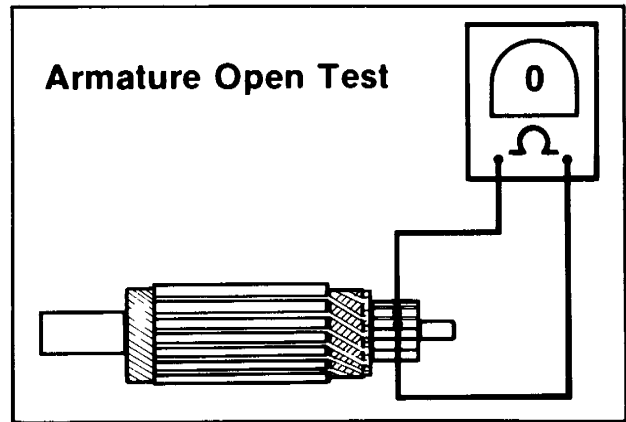

Figure 5-6. Testing for Open Armature
3. See Figure 5-6. Touch one probe of the ohmmeter to a commutator segment and the other probe to the adjoining segment. There should be continuity (zero ohms).